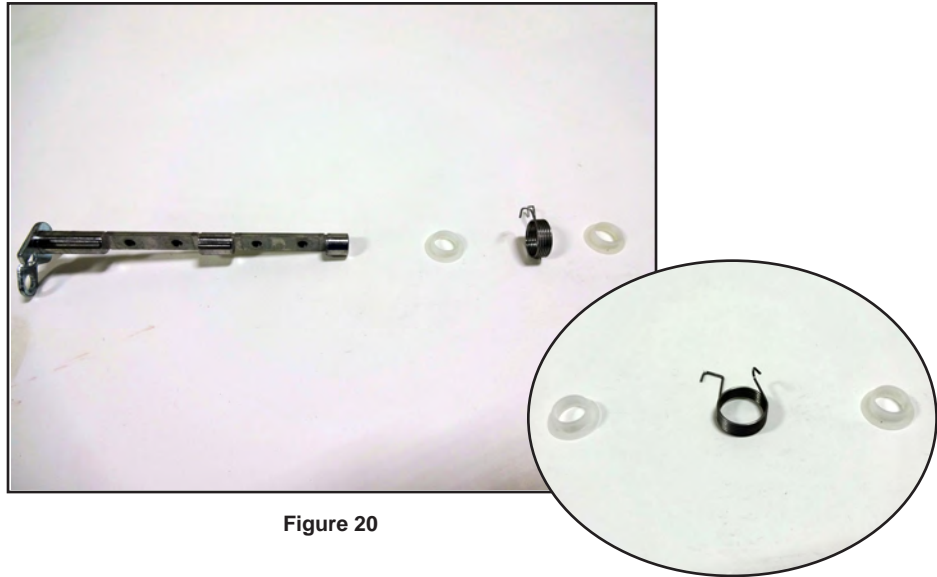

Figure 20
3. Inspect the shaft, spring, bushings and discs for wear or damage (Figure 20).